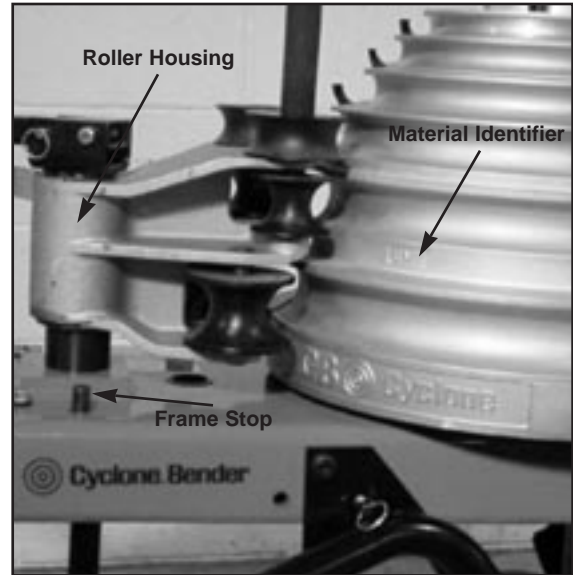

Figure 2. Set Up
⚠ WARNING: To avoid possible injury, do not place fingers under the bottom edge of the bending shoe. See Figure 2.
3. Locate the markings that indicate which grooves are used for specific materials, and which grooves are used for specific size conduit. See Figure 2.
4. Push the roller housing against the frame stop. See Figure 2. Rotate the shoe to bring the required grooves (EMT, IMC or Rigid) facing toward the operator. To activate the shoe, hold the pendant toggle switch in “Return” and press the override button until the zero light goes out. The shoe will rotate and stop in the load position. The zero light will come on.